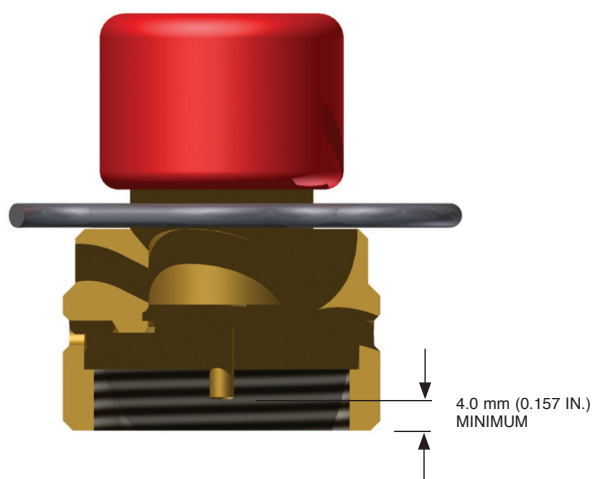

FIGURE 6-16
1. Check that the actuation pin is in the non-fired position. See Figure 6-16.